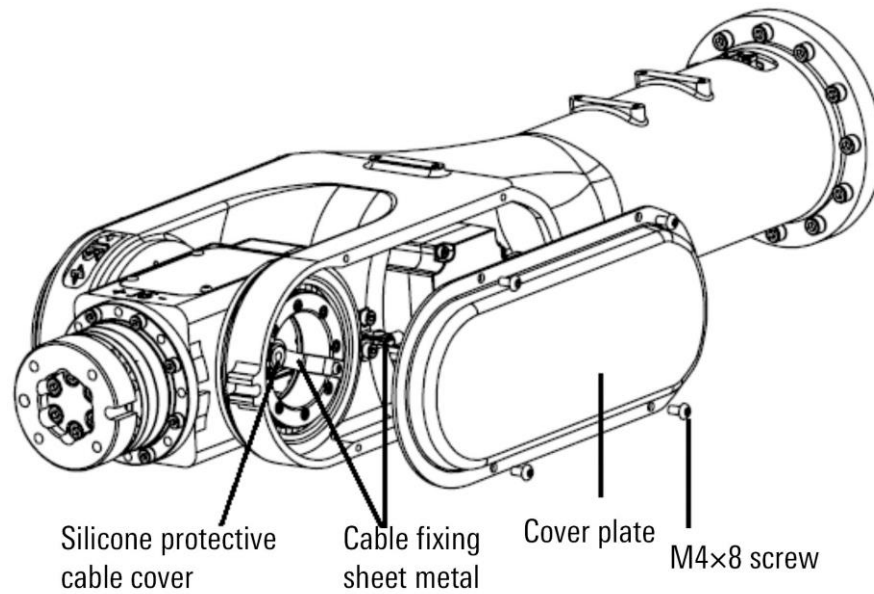

Figure 12-4 AIR10-1720B wrist internal cable
- Step1. Remove the cover plate, as shown in Figure 12-4.